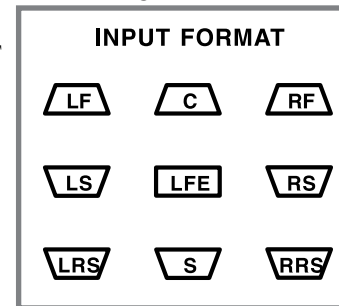

Figure 55
- A. If the input signal source is Eight Channel, the front panel INPUT FORMAT LEDs LF, C, RF, LS, LFE, RS, LRS, S and RRS will illuminate. Refer to figure 55.